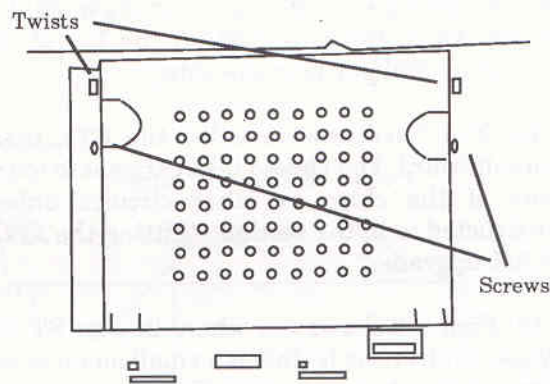

Figure 3 - Power Board shielding
(8) The STF and STFM computers have a built-in power supply. This is housed in the small shielded box at the left hand rear of the STFM. You must now remove this shielding. Undo the screws and straighten the twists shown in figure 3. Now remove the shielding and place it to one side. You will now see the power supply circuit board. You must not touch the components on this board. You might receive a small electric shock if you do! This is nothing to worry about - just be careful.